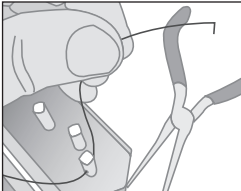

Figure 2
3. Measuring 1/8 inch from the end of the string, bend it at a right angle with a pair of pliers. (Fig. 2)